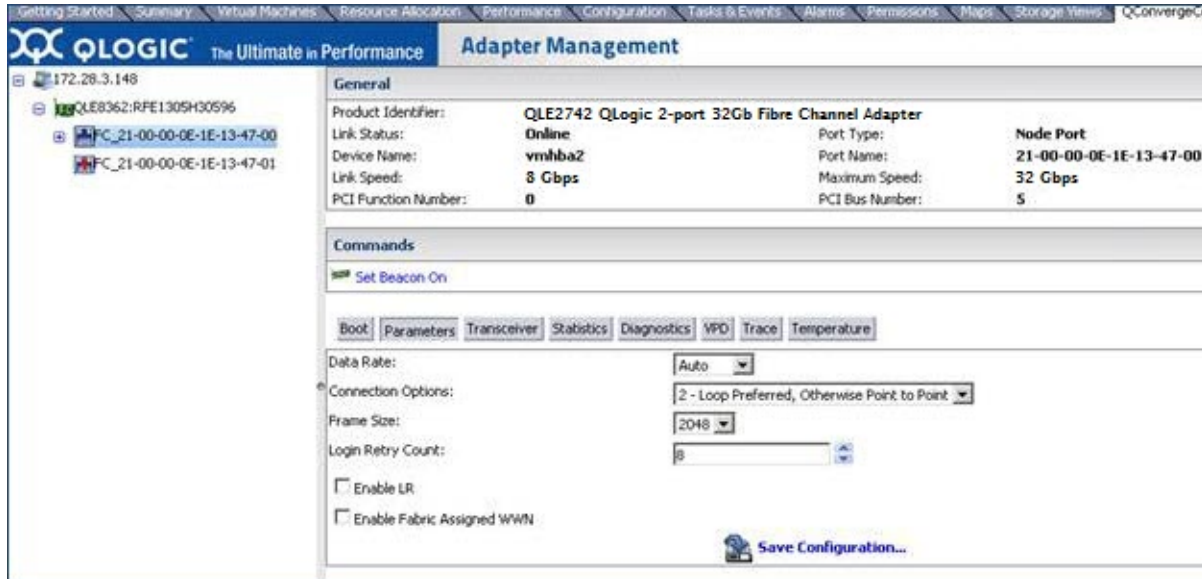

Figure 3-8. Enabling FA-WWPN Using QConvergeConsole Plug-in for VMware vCenter Server
4. In QConvergeConsole Plug-in for VMware vCenter Server, the parameters appear and can be edited. Figure 3-8 shows an example.